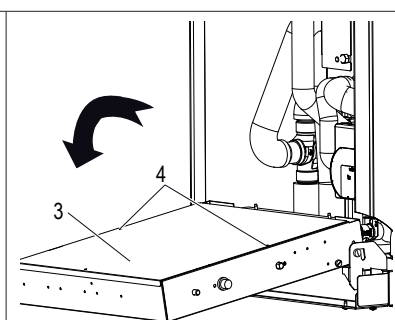

fig. 19 - how to turn the electric box
- turn it forwards (fig. 19) remove the metal sheet of the rear cover (detail 3 - fig. 19) secured with 2 screws (detail 4 - fig. 19).